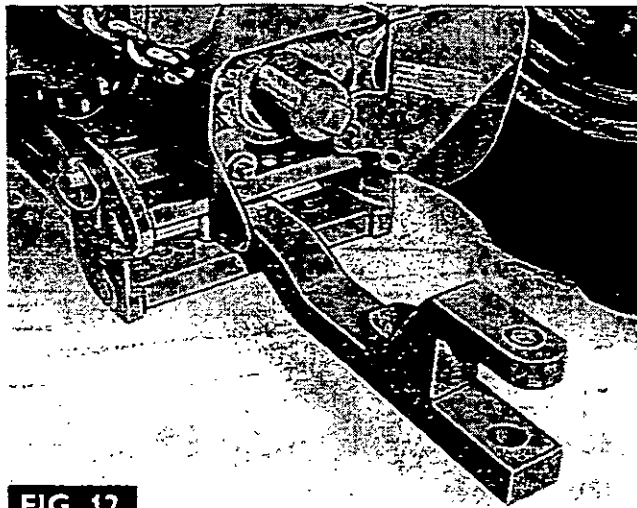

FIG. 12
2. Locate the brackets (24) on the bolts with gussets facing outwards, then refit the nuts and washers. Re-tighten the nuts to a torque of 17 kg-m (125 lb-ft). This is most important if a safety frame is fitted.
3. Fit the anchor pins (27) to the forward holes in the brackets. The anchor pin nuts and washers (22 and 23) are fitted on the gusset side (outside) of the brackets.
4. Assemble the linch pin (26) and attach it to the forward end of the anchor bracket (21) using a split pin (25).
6. Attach the chain (28) to the anchor pin and insert a linch pin.
7. Attach the rear end of the chain (31) to the rearmost hole in the lower link using a bolt, nut and spring washer (32, 33 and 34).
**NOTE-IF A FOUL CONDITION EXISTS BETWEEN BRACKET (31) AND THE BOLT THROUGH THE LIFT ROD FORK, AN ADDITIONAL SPACING WASHER MAY BE USED.**
**NORMAL DUTY SWINGING DRAWBAR** Fig 12.